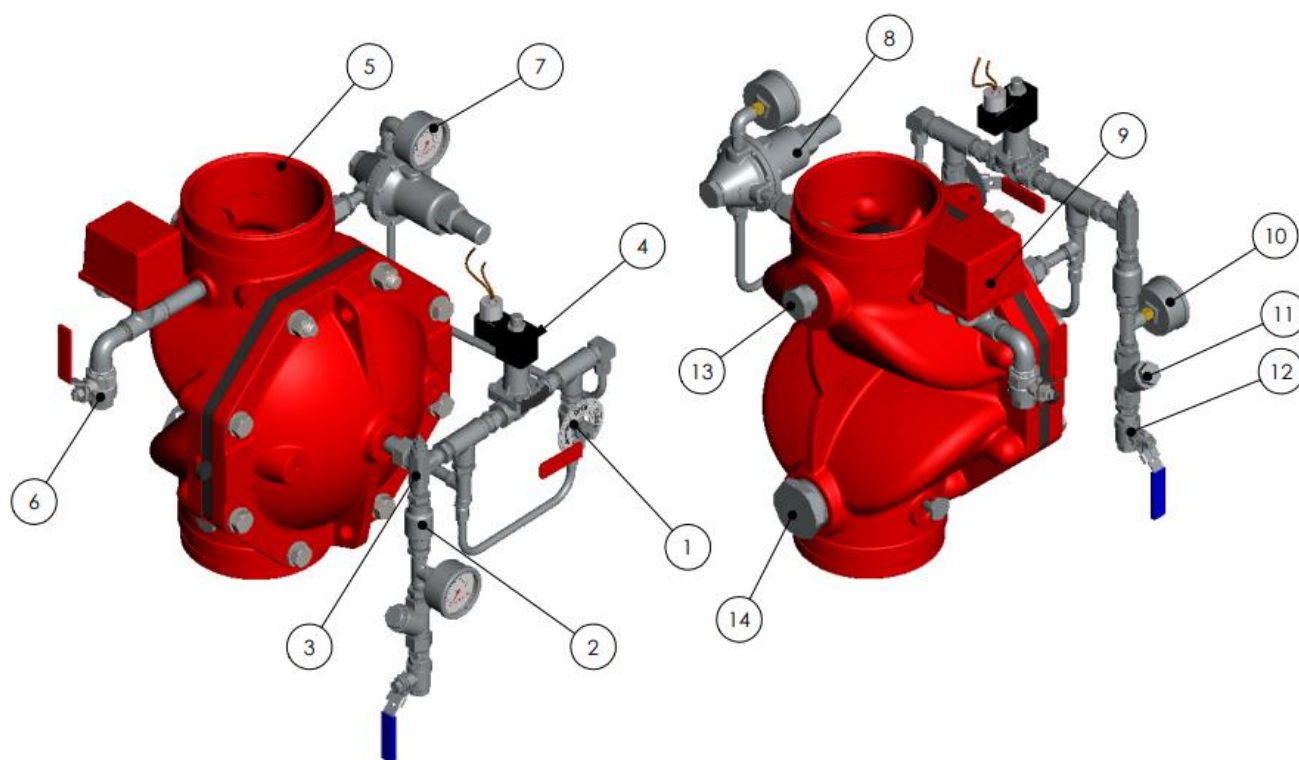
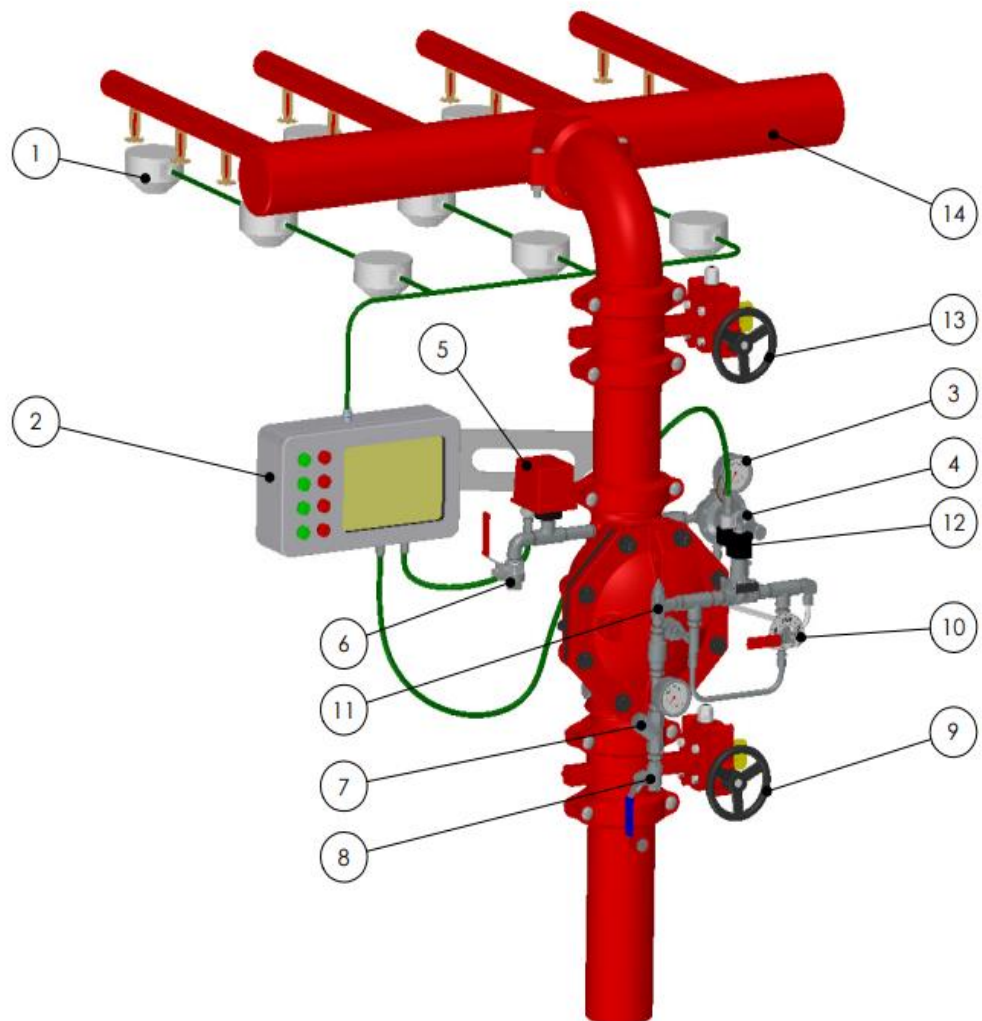

Figure 1
Figure 2
The trim is supplied by the trim supply valve (12 *figure 1*), “Y” strainer (**11**), check valve (**2**), flows through the needle valve (**3**), and fills the FDV’s control chamber. Pressurized water in the valve’s control chamber get trapped by the check-valve (**2**), by the solenoid (**4**) and by the closed emergency ball valve (**1**), maintaining the deluge valve in closed position.
De-energizing the solenoid will close the FDV valve and turn the system’s mode into SET position: while the closed solenoid blocks and drainage, upstream pressure constantly enters the valves control chamber through the orifice and pressurizes it. This pressure closes the deluge valve and the sprinkler’s water spray stops. It is recommended to drain the sprinklers pipe line by opening the ball valve connected to the FDV’s downstream drain valve (**14** *figure 1*).
7. All connections to water supply, alarms etc. should be done in accordance with figure 1.
(Reference Drawing - figure 2)
1. Close the upstream butterfly valve (9).
3. Close the trim pressure supply valve (8).
4. Open the FDV's downstream drain valve (6 **figure 1**)
5. Open the trim pressure supply valve (8).
6. Open gradually the upstream butterfly valve and make sure the downstream drain valve (6 **figure 1**) is not dripping. A dripping may indicate a FDV valve sealing issue. (see Troubleshooting chapter in FDV's basic valves datasheet & IOM bulletin)
2. Close the upstream butterfly valve (**9** figure 2)
4. Clean the trim strainer (7). Re-assemble the strainer's screen.
7. Open downstream drain valve (**6 figure 1**) and drain the spray pipeline. At drainage end, close this valve.
1. Make sure that the required supply water pressures are applied to the Deluge Valve inlet and trim: Observe the inlet pressure gauge (**10 figure 1**) for the correct upstream pressure.
3. Open the downstream drain ball valve (**6 figure 1**) to drain accumulated water. Significant amount of water may indicate an ADV's valve sealing issue (see Troubleshooting chapter in FDV's basic valves datasheet & IOM bulletin)
Every 5 years inspection procedure (reference – figure 1)
1. Close the upstream butterfly valve and the trim pressure supply valve (**9+8 figure 2**).